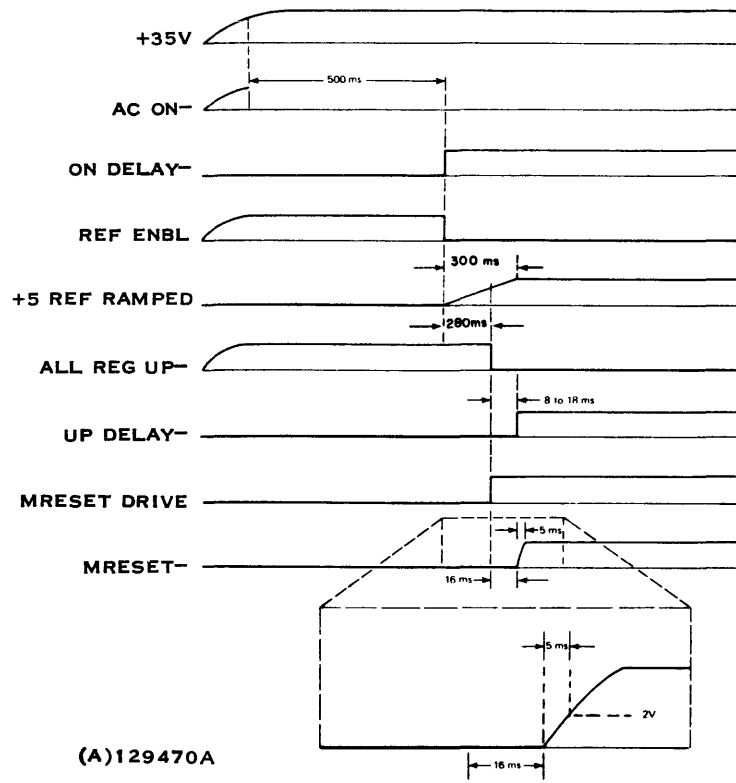

Figure 4-11. Turn-On Sequence Timing
If the AC ON- signal goes high, Q2 is turned on and C2 is discharged through Q2. Transistor Q3 is turned off and Q4 is turned on; therefore, the ON DELAY- goes low. This condition initiates POF \bar{F} pulse generation. Figures 4-11 and 4-12 illustrate the timing sequence.
During the turn-on sequence U3B pin 4 (ALL REG UP-) is initially high and pin 5 of U3B (UP DELAY-) is low as illustrated in figure 4-11. After the +5V MAIN gets up and all other voltages are up, ALL REG UP- goes low. Eight to eighteen milliseconds after this occurs, the UP DELAY- goes high. After this occurs, when a regulator goes below a predetermined level (see table 4-2), ALL REG UP- goes high and the overload latch is tripped. This shuts down the +5V MAIN by making REF ENBL- go high.
4.2.1.9 TURN-ON SEQUENCE. Turn-on sequence waveforms are shown in figure 4-11. When the ac power comes on, the +35V line and the +33V line increase from zero to their respective values. Also, the auxiliary and reference voltages begin to assume their values. All regulators except +5V MAIN come up unless the power supply is operating in the battery mode. If this is the case, other regulated voltages may already be up depending on the charge left in the battery.